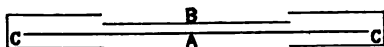

Fig. 246.
16. To darken the room, arrange a curtain of black cloth, A , Fig. 246, outside the ordinary curtain, B , wider (by six inches on each side) than the